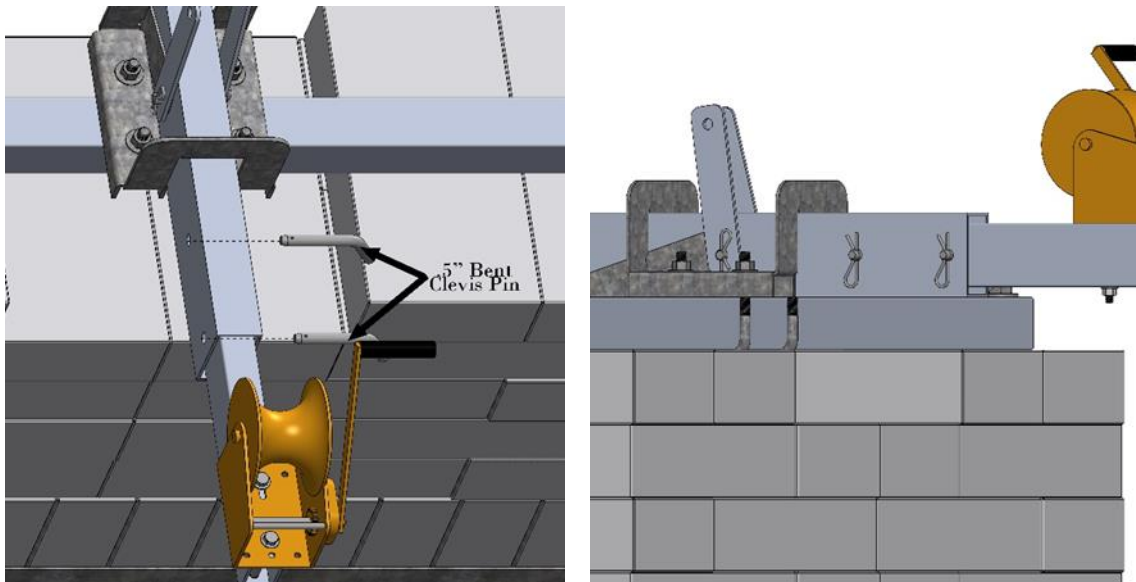

Figure 112 Winch removal
14. Cinch up the winch and lowering line and remove the winch extension piece from the front tower leg removing (2) 5" clevis pins and cotter pins as per Figure 112 then prepare for shipment.